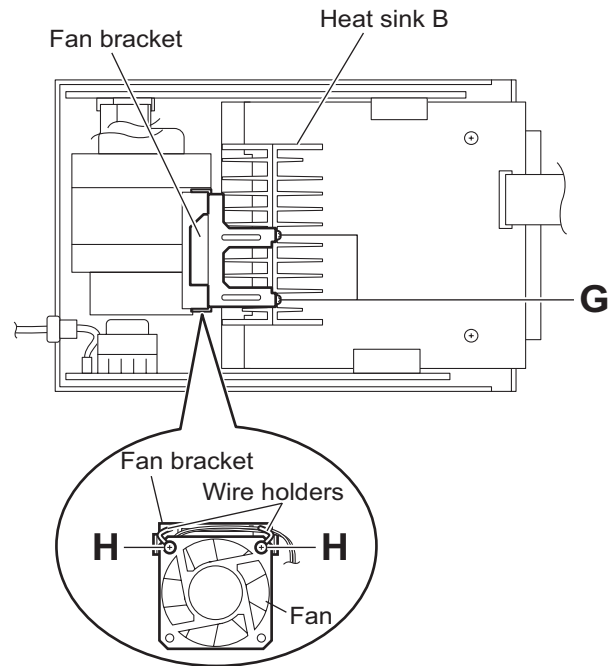

Fig.14
3.1.7 Removing the fan (See Fig.14)